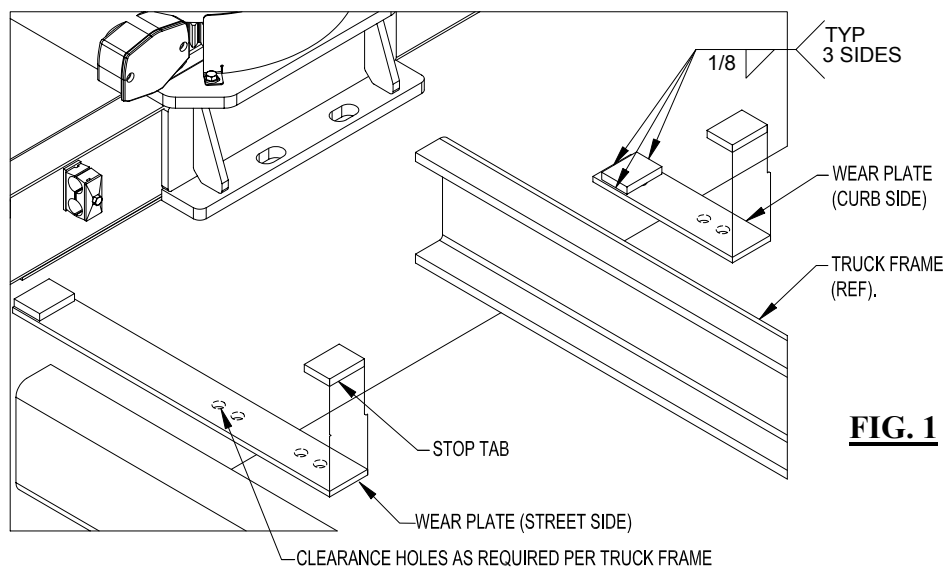

FIG. 1
5. In preparation for crane mounting, ensure mounting surfaces are flat by having wear plates between the crane base and the top of truck frame rails. Wear plates are as follows: (Fig. 1)